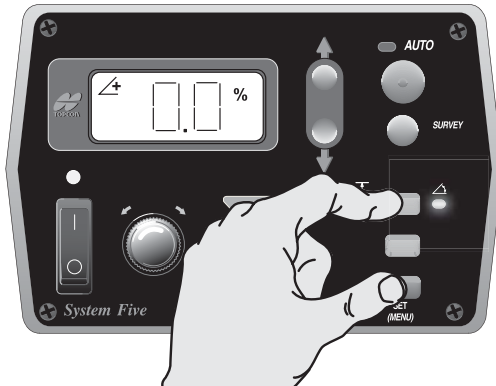

Figure 5-13. Accessing Cross Slope Mode
3. With the Control Box on, push the Slope Mode button. The yellow LED next to the cross slope symbol will illuminate (Figure 5-13).